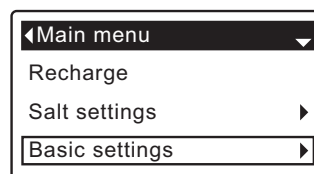

FIG. 40
1. From any of the rolling status screens, press the SELECT (O) button to display the **Main menu**.
2. Press the DOWN (▼) button to scroll through the menu options until **Basic settings** is highlighted (See Figure 40).